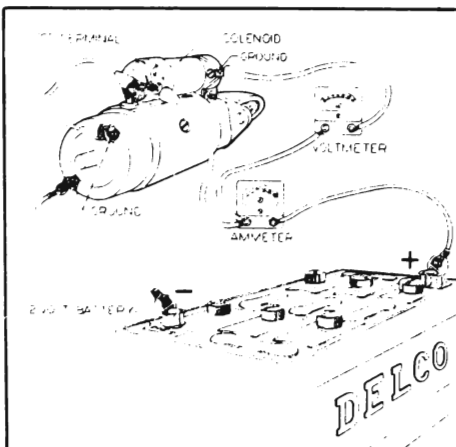

Figure 10-33—Amperage Test of Solenoid
1. Remove screw from solenoid motor terminal and bend field leads slightly until clear of terminal. Then ground solenoid motor terminal with a heavy jumper wire. See Figure 10-33.